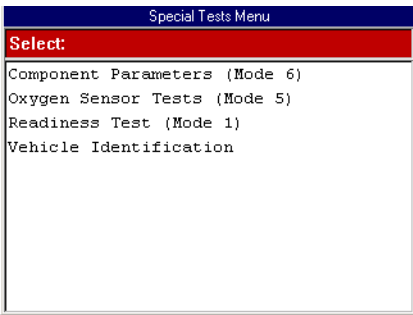

Figure 7.2: Special Tests Menu Screen
- 2 Select **Special Tests** and press the **ENTER** key. This displays the Special Tests Menu screen (Figure 7.2).